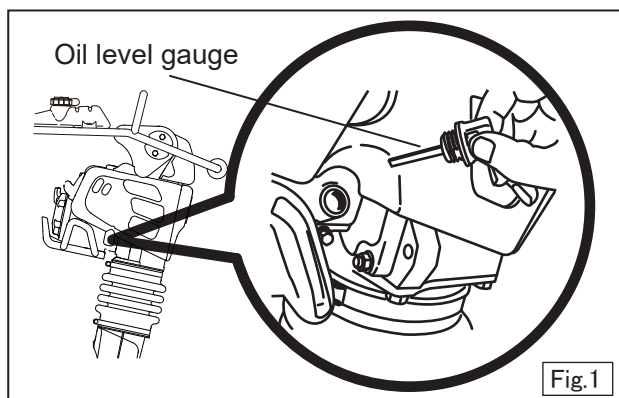

Fig.1
3. To check the engine oil, place the machine on a level surface (The engine remains in an inclined state.). (Fig.1)